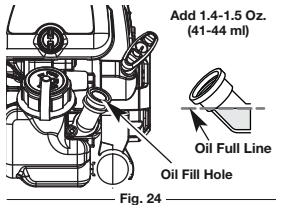
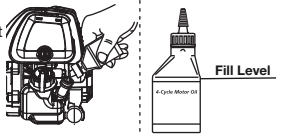

Fig. 24
Fig. 26
5. Check the oil level. Oil should be just to the bottom of the threads of the oil fill hole. (Fig. 24).
6. If the level is low, add a small amount of oil to the oil fill hole and recheck (Fig. 24). Repeat this procedure until the oil level reaches the bottom of the threads in the oil fill hole.
NOTE: Use the bottle and spout saved from initial use to measure the correct amount of oil. The top of the label on the bottle measures approximately 3.4 ounces (100 ml) (Fig. 26). Check the level (Fig. 24). If the level is low, add a small amount of oil and recheck. Do not overfill (Fig. 24).